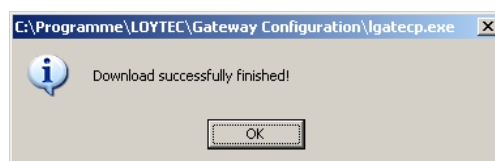

Figure 163: FTP download success dialog.
8. Observe the download progress. When the download is complete, the dialog shown in Figure 163 appears.